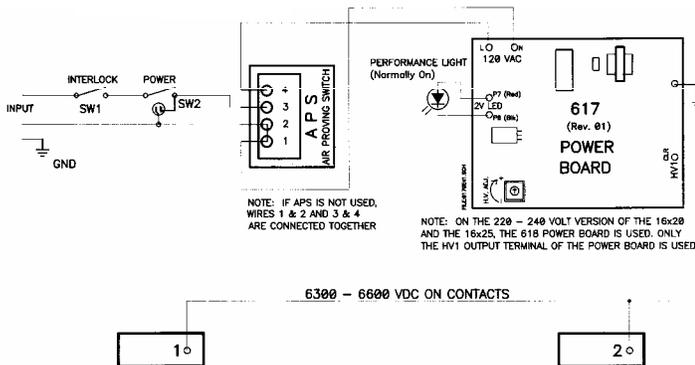

Fig. 5
Wire the Air Cleaner directly to the 120 V power source. The APS will power the Air Cleaner when there is sufficient airflow to activate the sensor. See Fig 5 & 6.
1. Disconnect wiring from terminals 1, 2, 3, and 4 on the APS. See Fig. 5 and 6.
5. Connect the wiring to the LED terminals on the power board. See Fig. 5 and 6.
2. Disconnect wiring from the LED, HV1 and 120 VAC power board terminals (A/ GSAS-10 and A/ GSAS-11) or LED, HV1, HV2 and 24 V terminals (A/ GSAS-12 and A/ GSAS-18) and ground. See Fig 5 & 6.